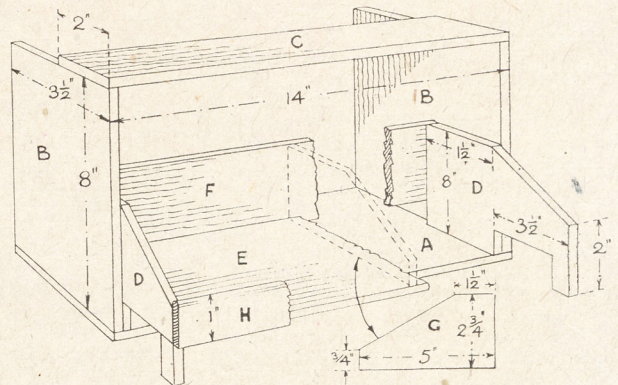

Fig. 2—Cut-away view showing constructional details
Commence construction by marking out and cutting the main floor (A) in Fig. 2. This measures 14ins. by $3\frac{1}{2}$ ins., and to this are attached the upright ends (B), measuring 8ins. by $3\frac{1}{2}$ ins. Cut all these pieces square, using for the purpose a
For the ends of the racks we shall want two pieces cut to the shape and dimensions shown on the right-hand end of the frame, as (D) in Fig. 2. After making one end, lay this on the next piece of wood and draw round it to get both shapes identical. For the interior divisions of the rack, two or three, according to the number of spaces required, will be cut to the outline
shown as detail (G) in Fig. 2. These are again of $\frac{1}{4}$ in. wood, of course.
Next mark out and cut the floor of the rack (E) in Fig. 2. This is 13ins. long and 5ins. wide, glued and nailed between the two ends (D). To the back edge of (E) and also to the back upright edges of the ends (D), the back of the rack (F) must be glued and nailed. This piece is $13\frac{1}{2}$ ins. long by 3ins. wide, and before fixing, the top edge should be rounded with coarse and fine glasspaper. The back edge of piece (C) should also be rounded off.
Space in the bathroom is often limited when there is a baby in the house. In the sketch at Fig. 2 is shown a board which will conveniently fit across the large bath and thus prevent the energetic youngster from causing so much spare water when he or she splashes about.